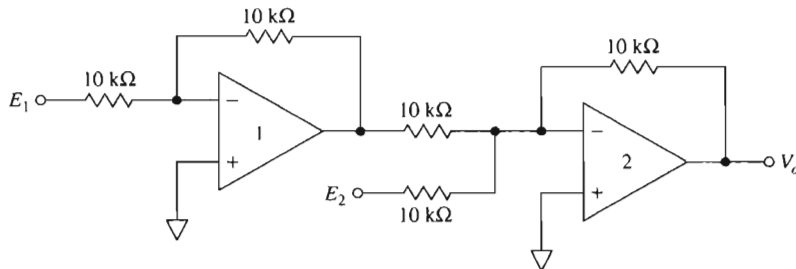

FIGURE P3-14
- 3-14. The circuit of Fig. P3-14 is called a “subtractor.” Is E_1 subtracted from E_2 , or vice versa?
3-15. A 5-V peak-to-peak sine wave, E_2 , is applied to the summing node in Fig. P3-14. Plot V_o vs. E_1 if voltage E_1 is (a) +5 V; (b) -5 V.